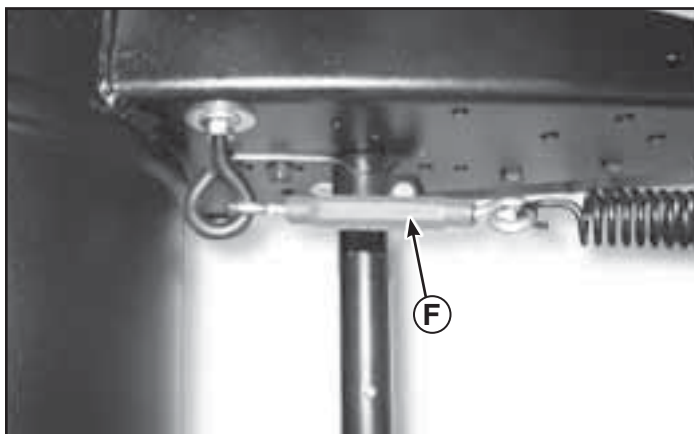

Figure 17
8. Adjust spring tension by rotating the turnbuckle (F, Figure 17) clockwise using a 9/16" wrench, until threads are no longer visible.